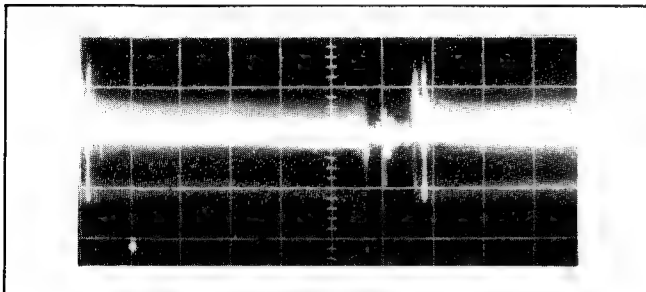

Fig. 10
- Now, observe the signal at the horizontal rate at test point TP303, and adjust the dark shading control (H. Saw.), VR607 and the dark shading control (H. Para.), VR608 so that the signal waveform is flattest during the horizontal period as shown in Fig. 10.